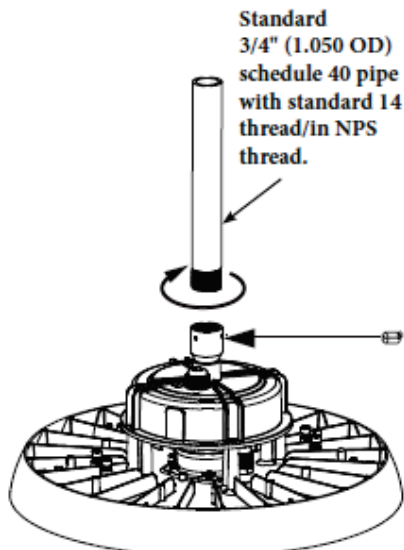
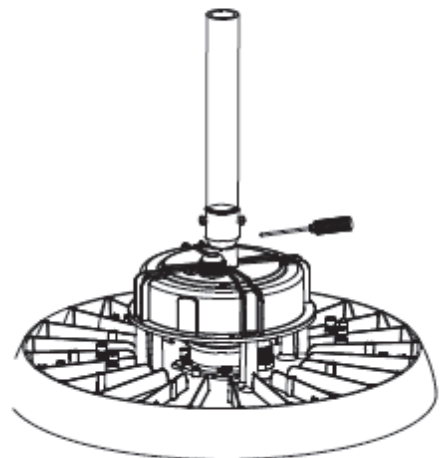

Figure 12
Figure 13
2. Insert threaded end of adapter into threaded hole on top of assembly. Insert the threaded end of 3/4" pipe into the threaded female end of adapter (Figure 12). Tighten adapter screw to lock threaded pipe (Figure 13).